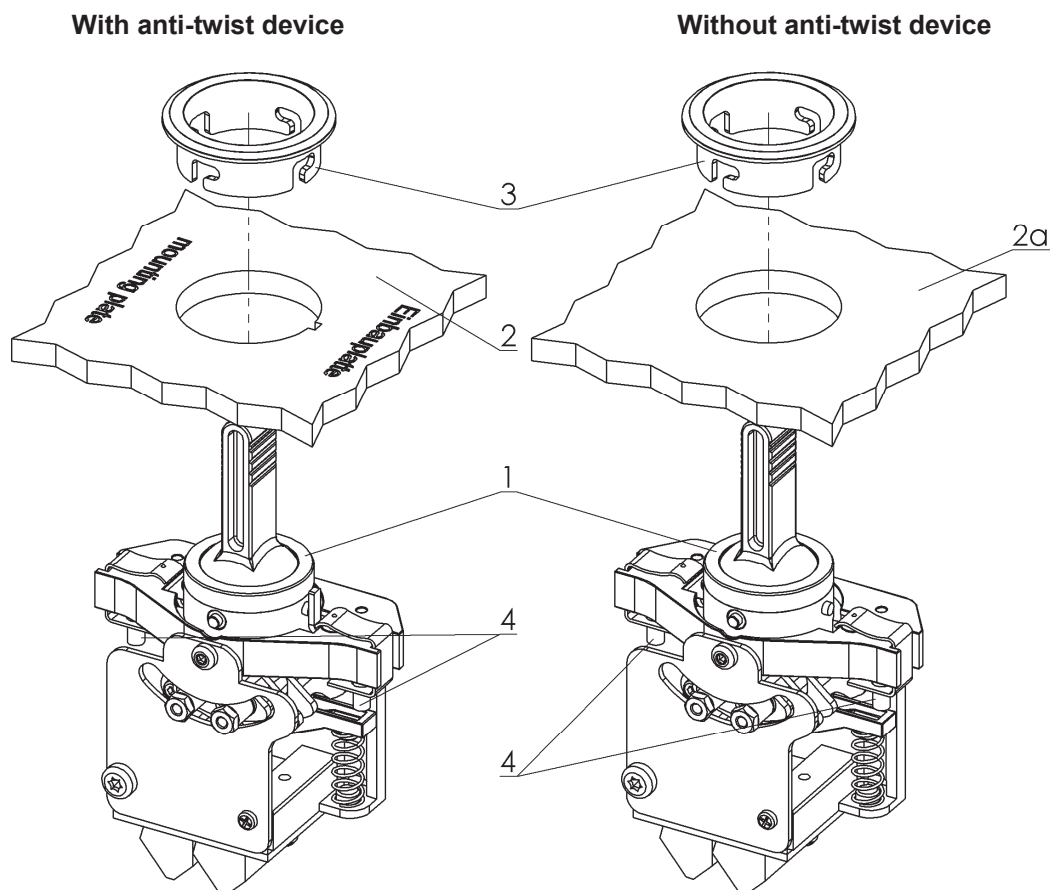

Figure 3: Installation
Figure 3 shows the installation of the lever switch. As one can see, the lever switch (1) is inserted into the port (2) from below, and the centering ring (3) is placed upon it from the top. Fix the entire unit by tightening the two attachment screws (4) evenly (NOTE: Max. Torque 50 Ncm!!). Make sure to remove the cylindrical handles (handles 13 and 14) before inserting the lever switch into the port. You will find a detailed instruction for the disassembly of the handles in chapter 5.2.